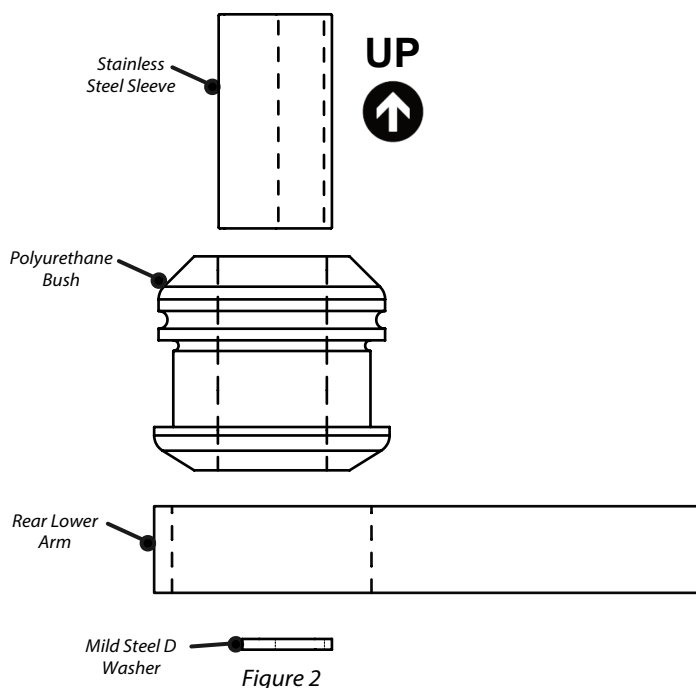

Figure 2
3. Push in the polyurethane bush with the smaller chamfered edge being pushed in first into the bore of the arm (Figure 2).